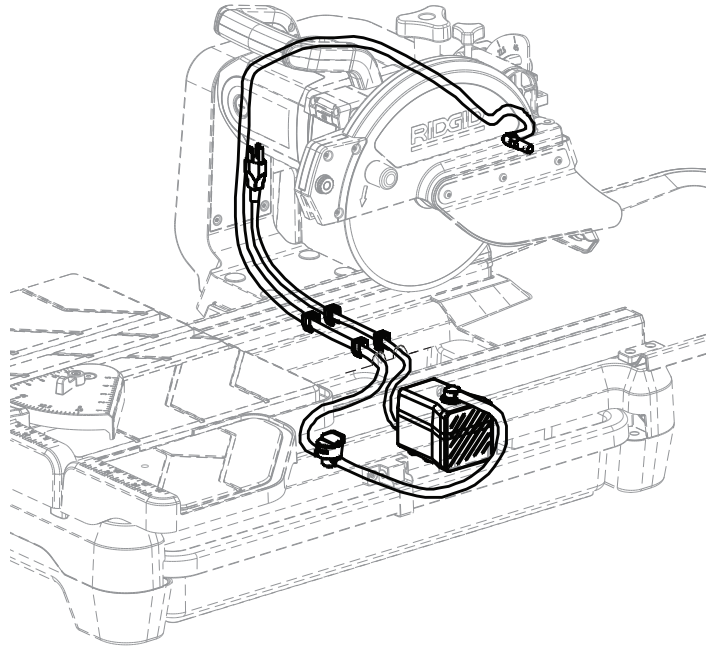

Fig. 14
4. Locate the 4 clips in the 2 grooves beneath the work table, close to the motor-mounting arm (Fig. 14). Use 2 clips to lock the water hose into one groove and 2 clips to lock the power cable into the other groove, as shown in Fig. 14.